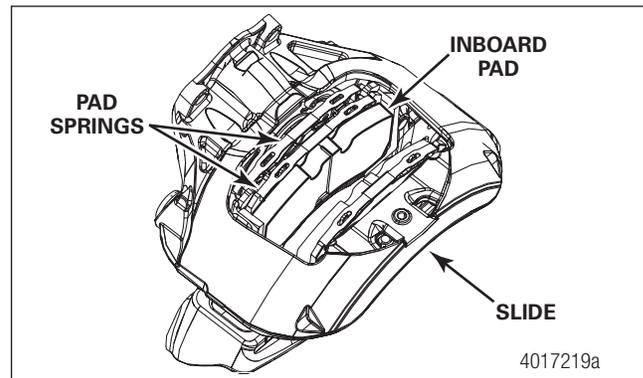

Fig. 6.19 Slide the caliper in.
STEP 2 - Slide the caliper INWARD. Install the inboard pad and two springs into the inboard side of the caliper, install the pad spring onto the piston tappet. Figure 6.19.